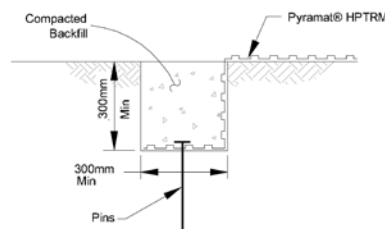

FIGURE 3: LONGITUDINAL EDGE TRENCH DETAIL
- Excavate longitudinal edge trenches 300mm x 300mm minimum along both sides of the installation to bury edges of mat (see Figure 3). The longitudinal edge trenches shall be located along the first and last installed rolls.
- Secure longitudinal edge trench with pinning devices on 300mm centers (see Figure 3).